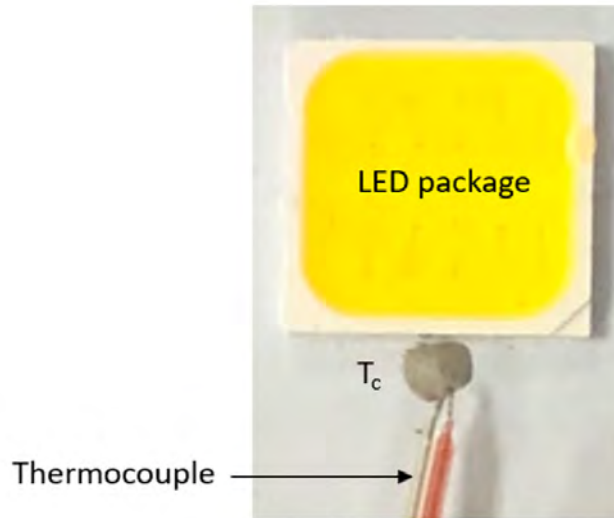

Figure 1: An example of a representative setup of thermocouple (TC) wire attachment via thermal adhesive at the  $T_c$  location.
Shown in Figure 1 is a thermocouple (TC) wire size of AWG 40. Smaller diameter TC wire is preferred as this has less thermal mass (more accurate temperature reading) and can be secured such that no portion of the bare TC wire is exposed to direct optical radiation from the LEDs. Dispense a small amount of thermal conductive epoxy such as a two-part Artic Silver® Thermal Adhesive and let it cure.